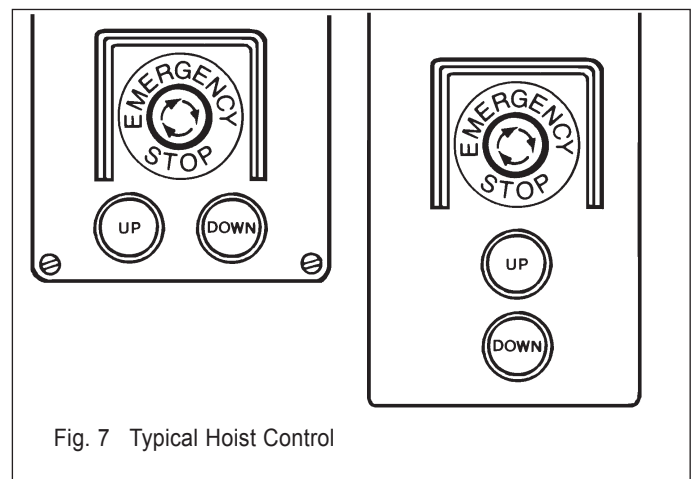

Fig. 7 Typical Hoist Control
- (3) **CAUTION: DO NOT OPERATE THE MOTOR FOR ANY REASONS, IF THE MEASURED RUN VOLTAGE IS LESS THAN THE MOTOR NAMEPLATE RATING!**
- (4) Always secure the power cord to the platform with a strain relief fitting and shackle (Fig. 7), so the cord weight will be off the connector.
- (5) When finished for the day, make certain the power cord is disconnected at the hoist pigtail as well as at the main outlet.
- (6) Be sure to **ground all electric equipment**. Do not use wire rope as a ground!
Control (Fig. 7) is by